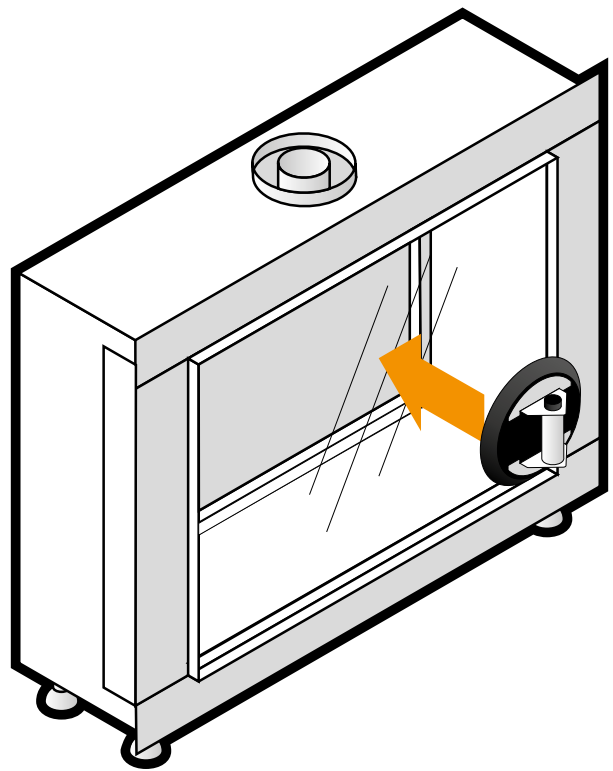

Figure 10-5: Attach suction cup
- Put the section cup on the glass and make sure it is properly vacuumed, so it will not come off (fig 10-5).